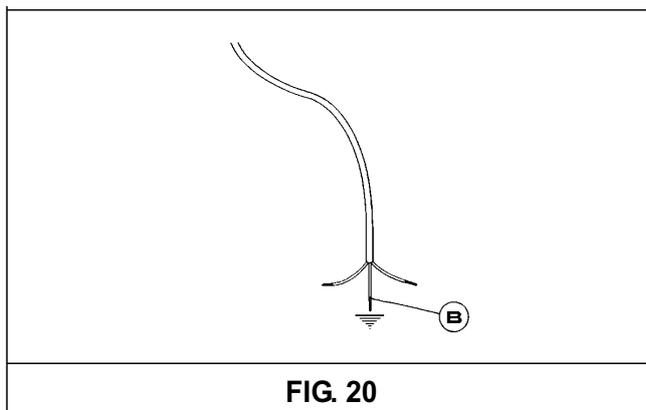

FIG. 20
If the power supply cable is replaced, the installer should leave the ground wire longer than the phase (B) conductors (fig. 20) and comply with the recommendations given in paragraph 8.